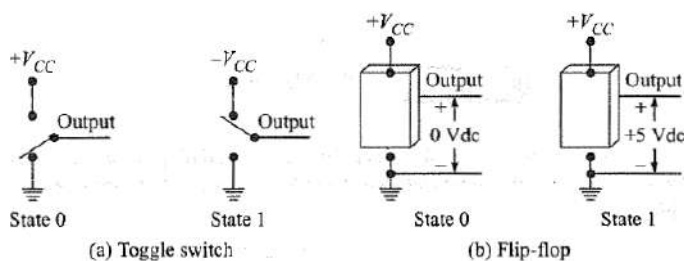

Fig. 8.1 Bistable devices
- A *flip-flop* is a bistable electronic circuit that has two stable states-that is, its output is either 0 or +5 V dc as shown in Fig. 8.1 b. The flip-flop also has memory since its output will remain as set l something is done to change it.